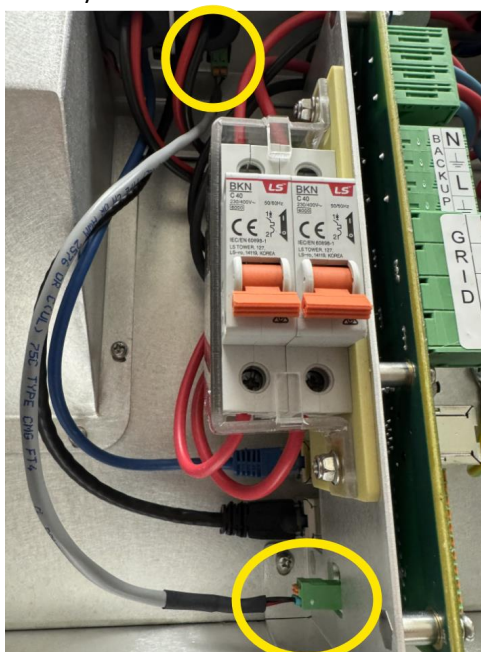

Figure 1: DRM0 cable connected
3. Remove the wiring panel and connect the ~30cm **DRM0\_Curtailment Cable** as shown in Figure 1 by the yellow circles.